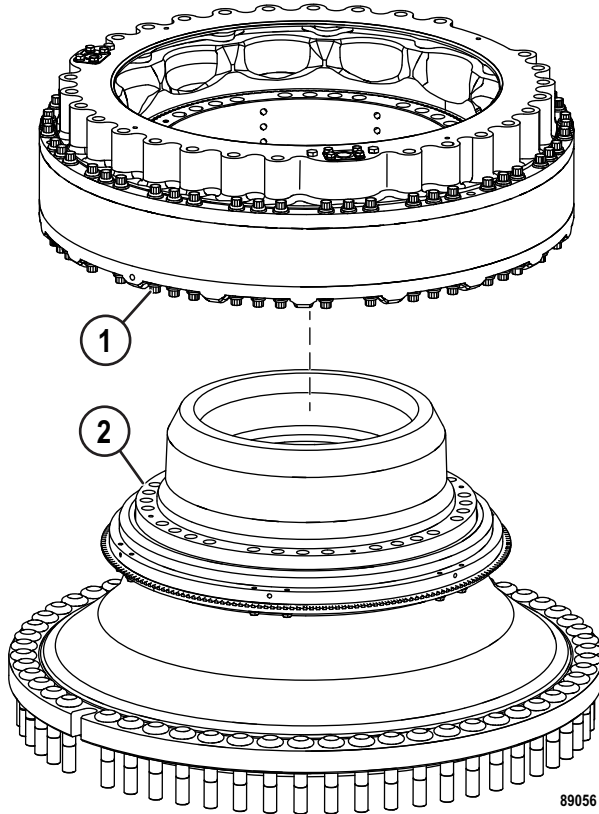

FIGURE 50-76. BRAKE ASSEMBLY REMOVAL
18. Attach lifting eyes and an overhead hoist to brake assembly (1, Figure 50-76). Carefully lift the brake assembly from wheel hub (2).